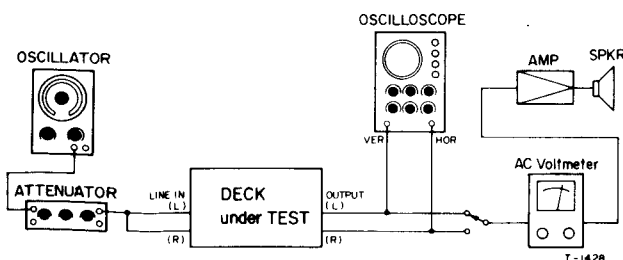
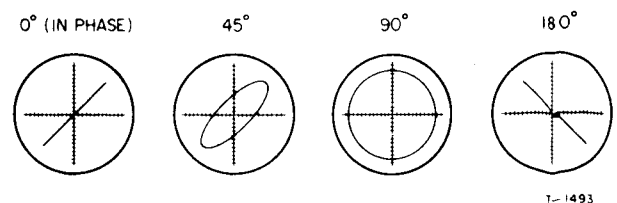

Fig. 3-4 Connection for azimuth check
Fig. 3-5 Confirming phase relationship
| 5. Playback head azimuth | 5-1 Fig. 3-4 | FWD directionSPEED sw.: HIGHTAPE SELECTOR (R): LH (I, II) | YTT-1003(16 kHz/-10 dB) | Azimuth adjust screw on head (Fig. 2-11) | Phase: within 45° on oscilloscope (Fig. 3-5) |                                   |